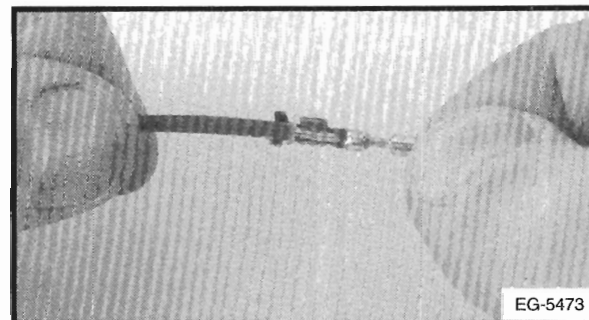

Figure 6-23. – Place Terminal Over Wire
2. Position the wire in the new terminal (Figure 6-23.).